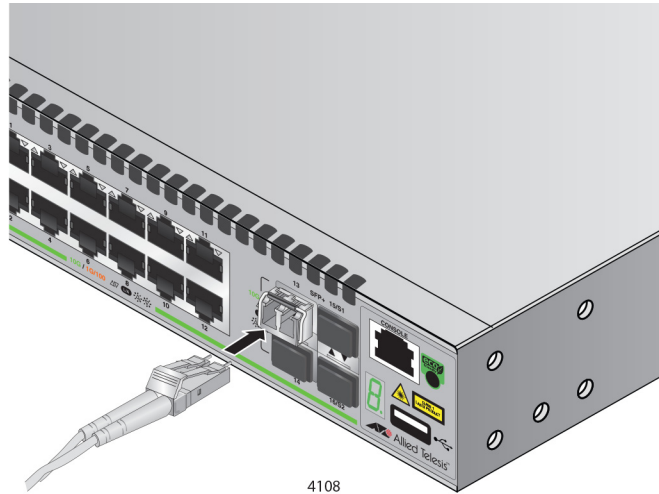

Figure 52. Connecting a Fiber Optic Cable to an SFP Transceiver
7. Connect the fiber optic cable to the transceiver, as shown in Figure 52.